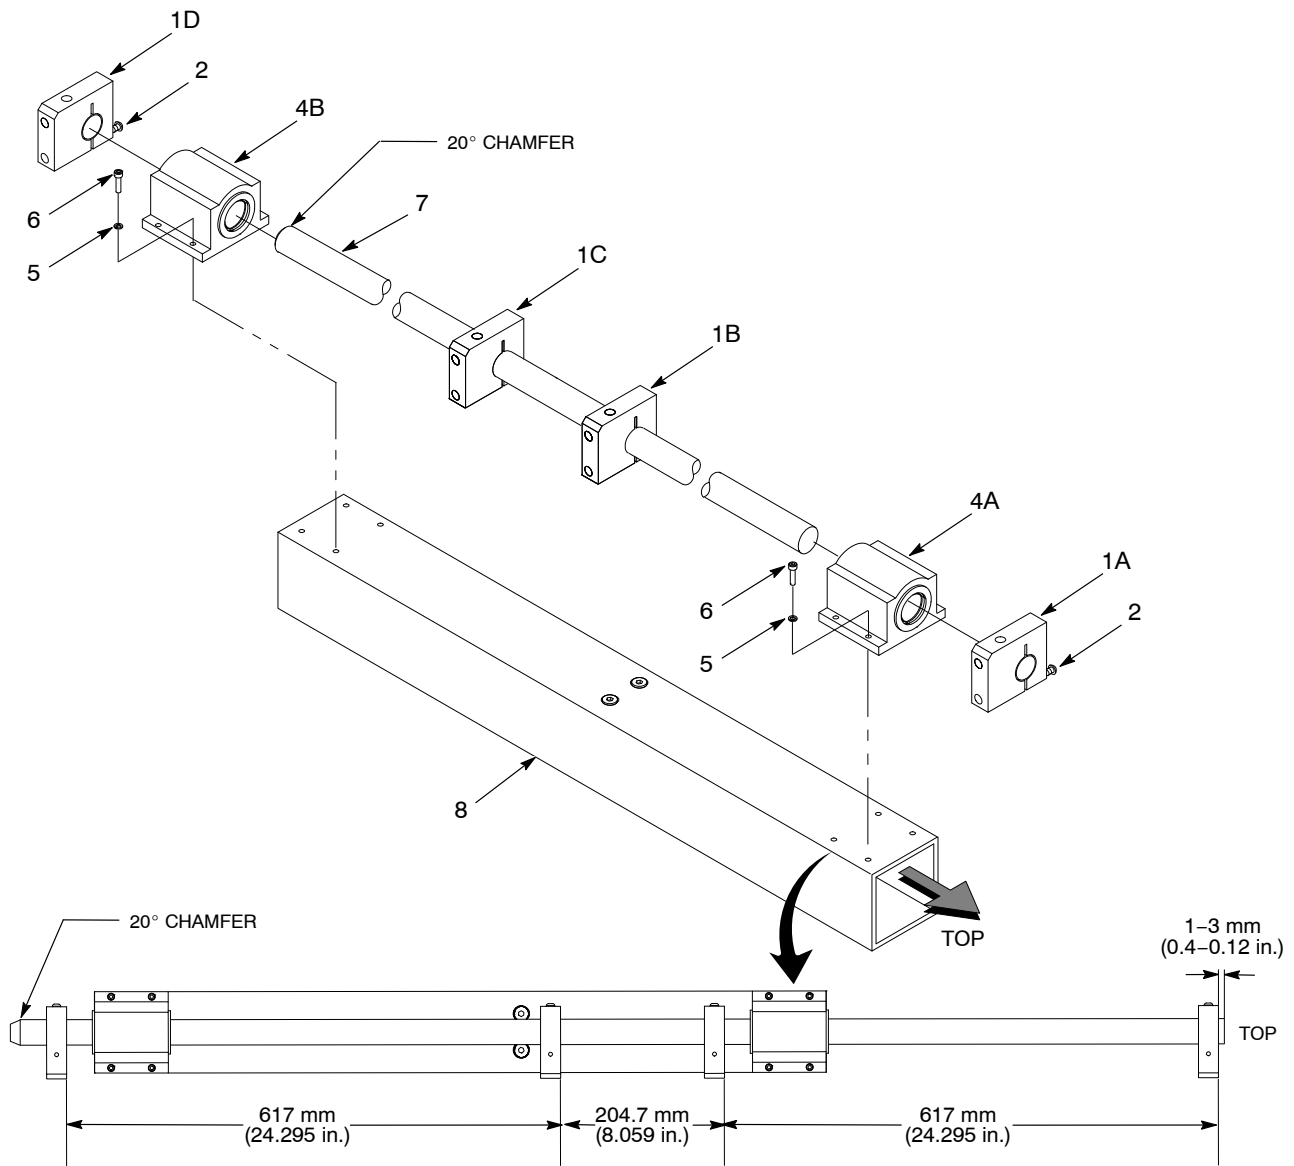

Figure 17 Replacing the Bearings
1. See Figure 17. Loosen the screws (2) securing the two end shaft supports (1A, 1D). Remove the two end shaft supports.
2. Remove the screws (6) and lock washers (5) securing the bearings (4A, 4B) to the bearing mounting tube (8). Remove the bearings from the shaft (7).
3. Remove the last two shaft supports (1B, 1C) from the shaft (7).
4. Install the new bearings (4A, 4B) onto the new bearing mounting tube (8) using the lock washers (5) and screws (6). Do not tighten the screws at this time.
- a. Insert the 20° chamfered end of the shaft (7) through the top bearing (4A).
- b. From the 20° chamfered end of the shaft (7), slide two shaft supports (1B, 1C) onto the shaft (7).
- c. Insert the shaft through the bottom bearing (4B). Tighten the bearing screws (6) to 6 N•m (4.4 ft-lb).